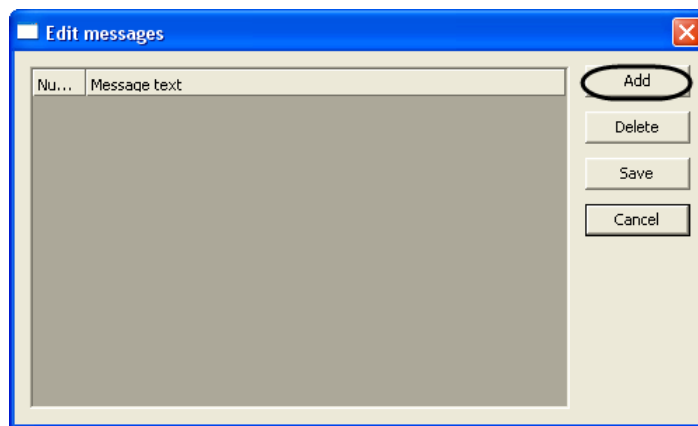

Fig. 3.6—5 The Edit Messages window
4. To add a new message to the list click the “Add” button (see Fig. 3.6—5).